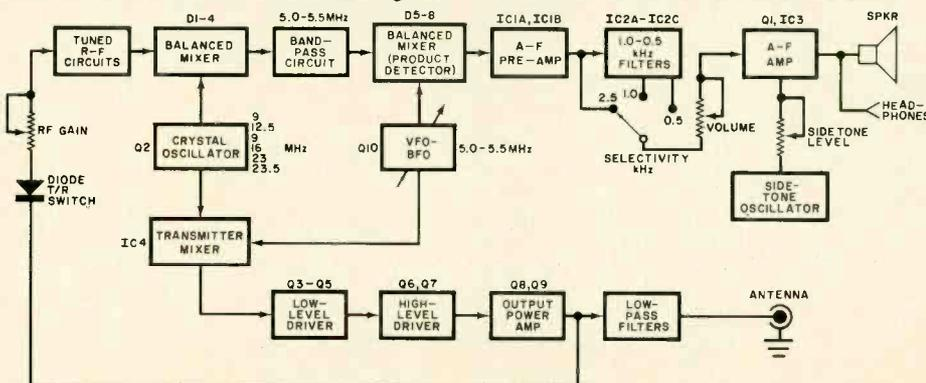

Fig. 1. Block diagram shows "double-direct conversion" design of transceiver.
**Technical Details.** A block diagram of the transceiver is shown in Fig. 1. Input signals are applied to the receiver mixer via individual double-tuned circuits (using toroid-wound inductors) for each band. At the mixer, the input signals are heterodyned with a crystal-controlled local-oscillator signal of 9, 12.5, 9, 16, 23, or 23.5 MHz to produce an i-f between 5.0 to 5.5 MHz over the respective bands of 3.5 to 4.0 MHz, 7.0 to 7.5 MHz, 14.0 to 14.5 MHz, 21.0 to 21.5 MHz, and 28.5 to 29.0 MHz. The difference frequencies are used for the lower two bands, while the sum mixtures of the frequencies are used for the latter four bands.